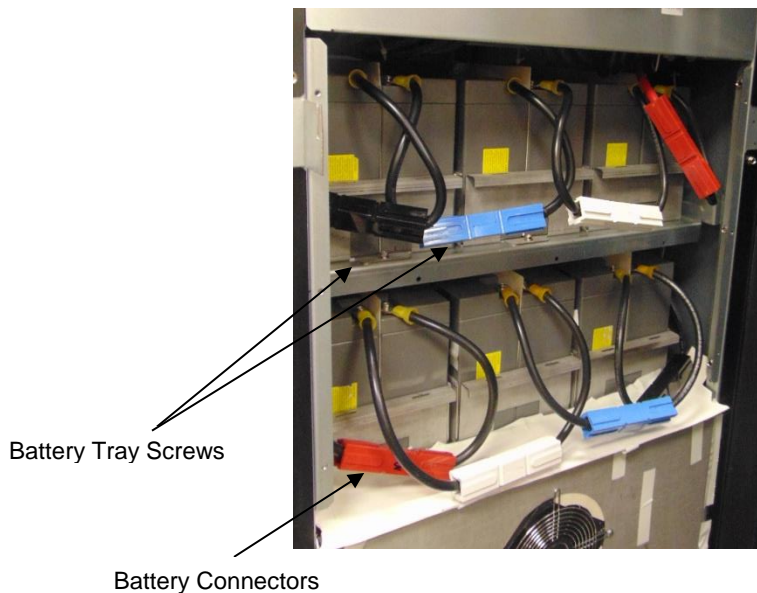

Figure 22 - UPS Internal Battery trays
3. Locate the battery connectors between the battery trays as shown in **Figure 22**.
5. The batteries are mounted into trays that bolt down to the chassis as shown in **Figure 22**. Remove all of these bolts.